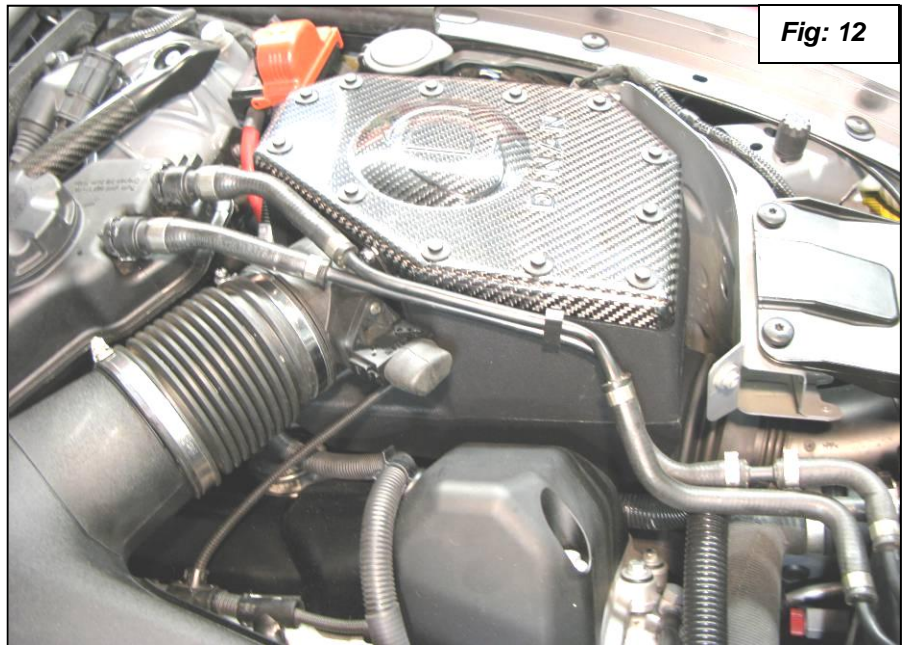

Fig: 12
17. Clip the coolant lines into the fastener on the side of the air box on the driver's side. See figure 12.